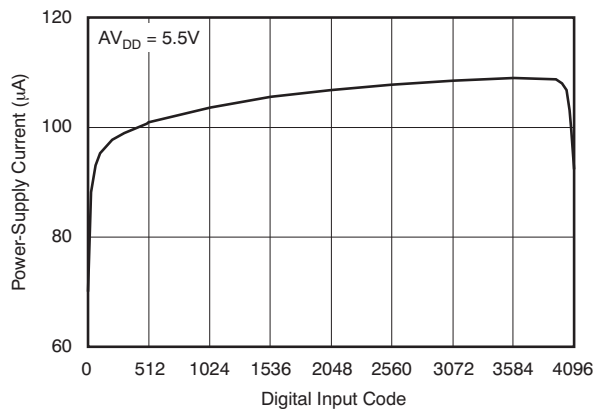

Figure 15.
(6) Specified by design and characterization, not production tested.
(7) For more details, see Figure 15, Figure 58, and Figure 91.